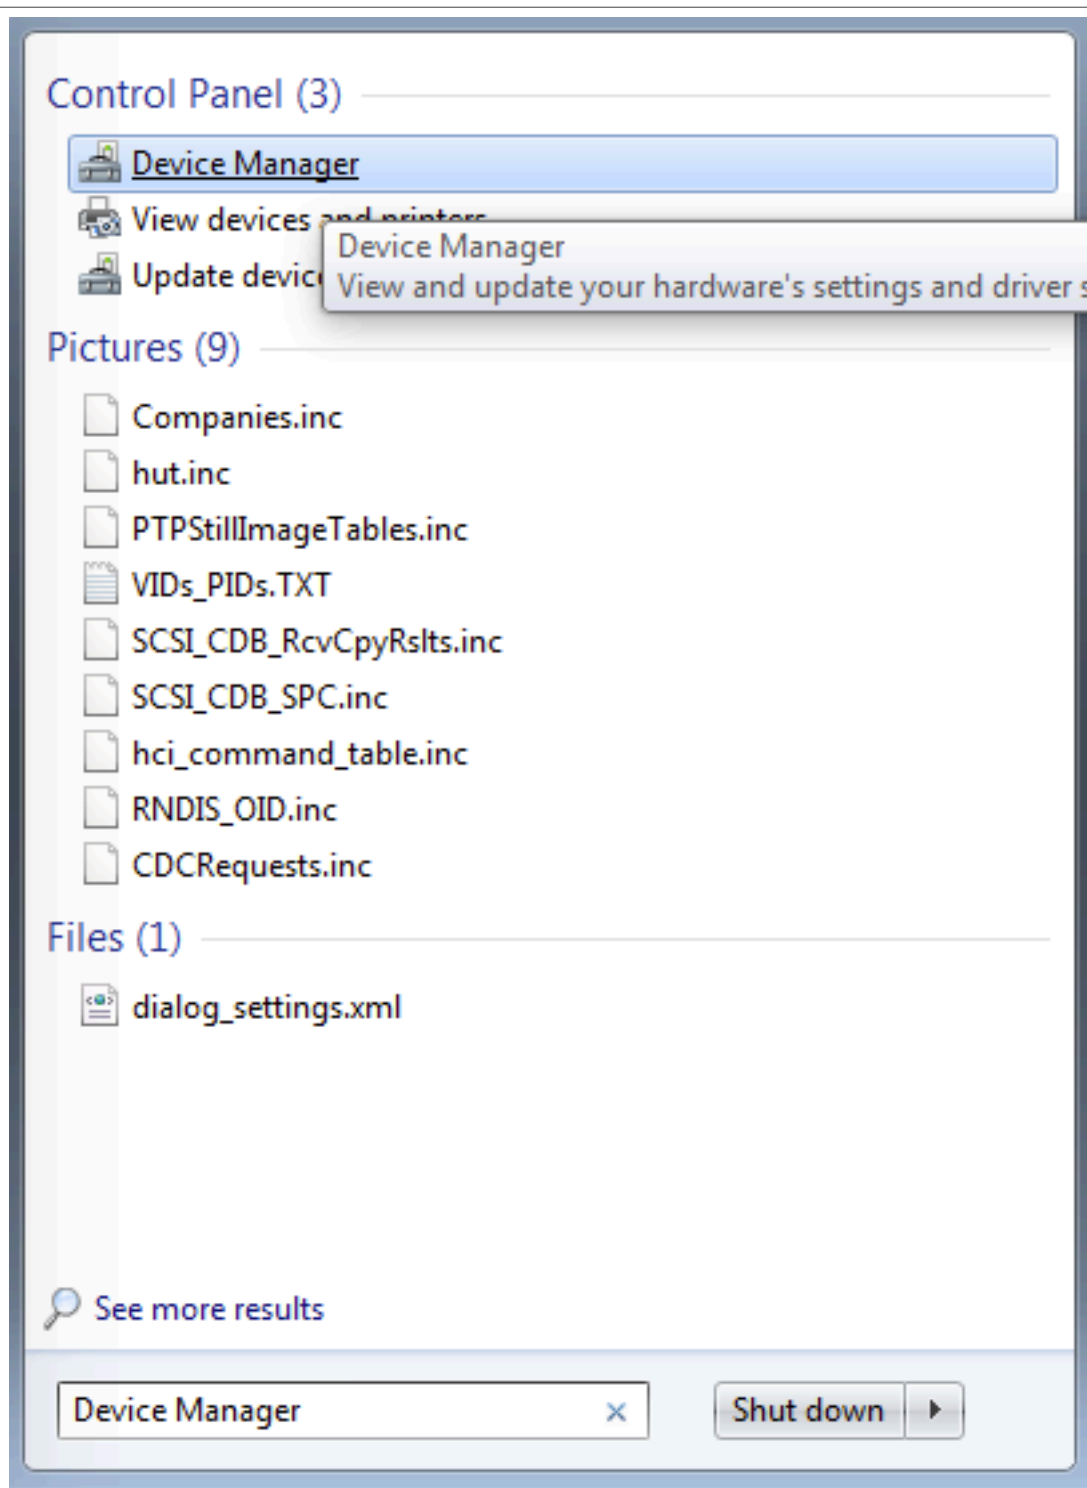

Figure 27. Device manager
1. To determine the COM port, open the Windows operating system Device Manager. This can be achieved by going to the Windows operating system Start menu and typing **Device Manager** in the search bar, as shown in Figure 27.